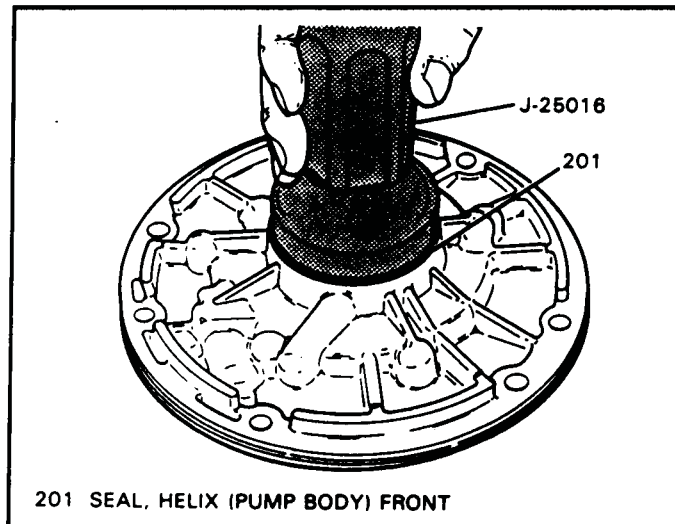

Figure 129
3. Install a new front pump seal using J-25016 as shown in Figure 129.